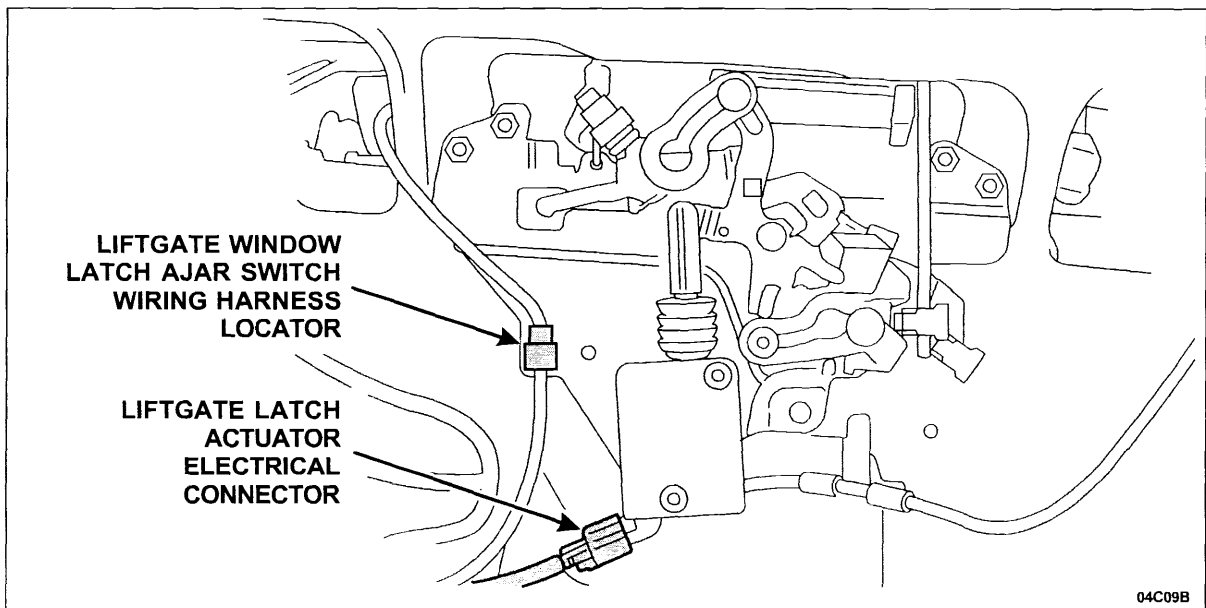

FIGURE 2
5. Release the liftgate window latch ajar switch wiring harness locator and if equipped, disconnect the liftgate latch actuator electrical connector. See Figure 2.
4. Secure the liftgate window latch ajar switch wiring harness locator and connect the liftgate latch actuator electrical connector. See Figure 2.